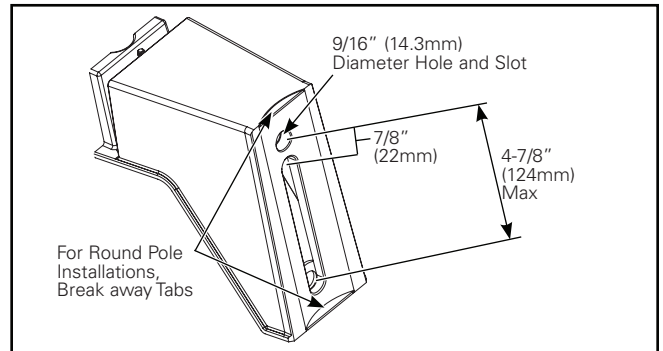

Figure 10.
2. The pole mount arm is designed for a square or round pole. Round pole installation will require the break-away tabs to be removed. Use pliers to remove tabs. (Figure 10.)